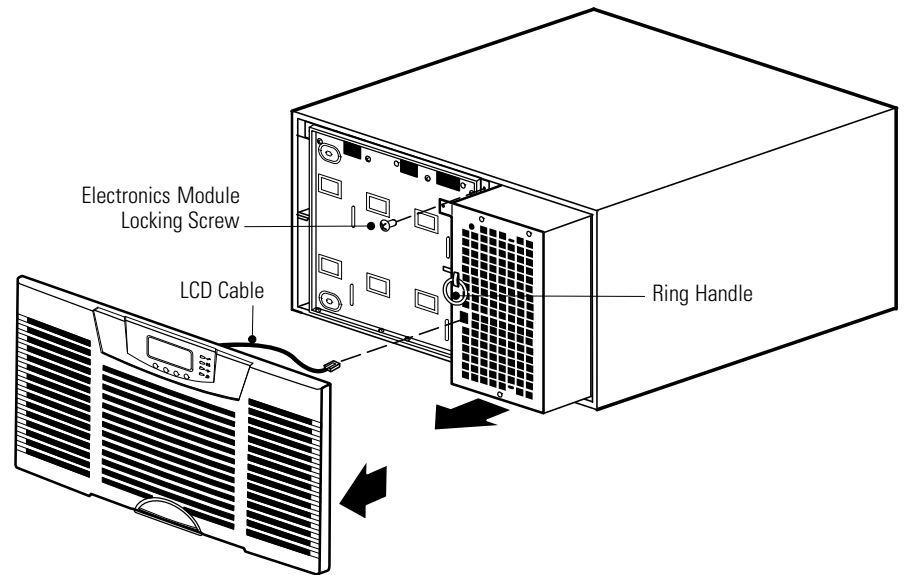

Figure 59. Removing the UPS Front Cover and Electronics Module
3. Remove the UPS front cover and the electronics module and set them aside (see Figure 59):
9. Remove the UPS front cover and the electronics module (see Figure 59 on page 95):